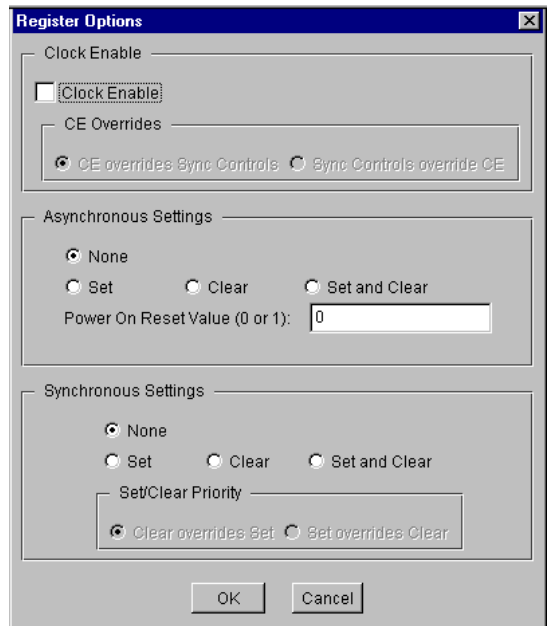

Figure 2: Bus Multiplexer Register Options Parameterization
- **Register Options:** This button is only enabled when a registered output has been requested via the Output Options. Clicking on this button brings up the Register Options parameterization screen (See Figure 2).
The Register Options parameterization screen for this module is shown in Figure 2. The parameters are as follows: